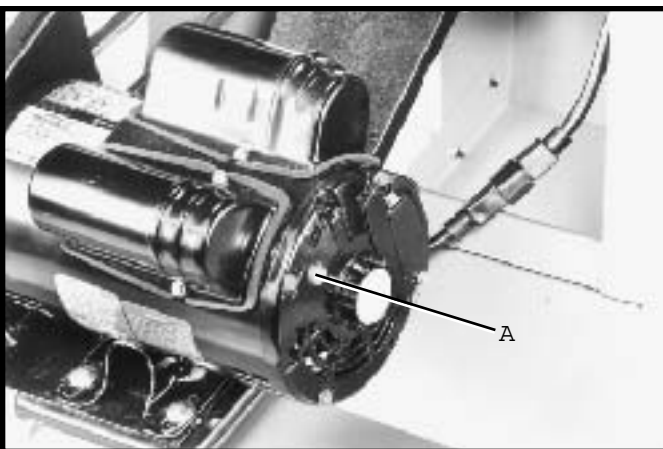

Fig. 79
The motor recommended for use with your saw is equipped with a reset overload relay button (A) Fig. 79. If the motor shuts off or fails to start due to overloading (cutting stock too fast, using a dull blade, using the saw beyond its capacity, etc.), or low voltage, turn the switch to the OFF position, let the motor cool three to five minutes and push the reset button (A), which will reset the overload device. The motor can then be turned on again in the usual manner.